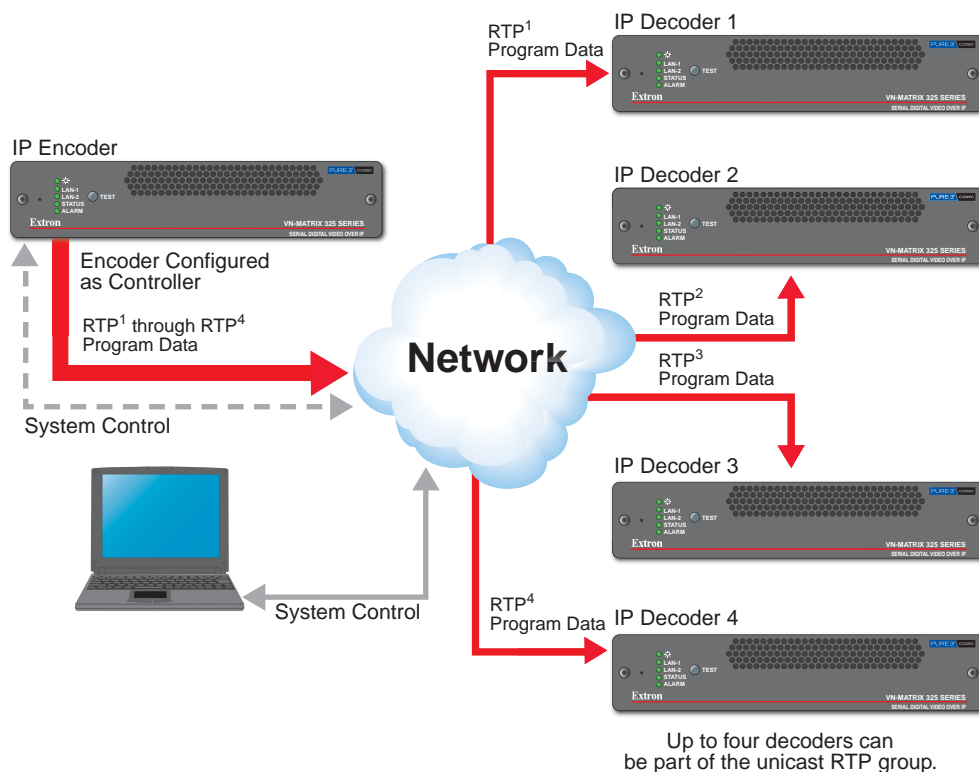

Figure 4. Typical Unicast RTP Application
Like multicast RTP, the unicast RTP data transport method uses a real-time variation of the UDP protocol that is connected as shown in figure 4. Unicast RTP differs from multicast RTP in that it is a point-to-point protocol that uses a separate data stream for each decoded display. The VN-Matrix 325 system can support up to four displays (decoders) from one source (encoder), but such a configuration uses four separate data streams and results in four times the network bit rate as a single display (decoder) configuration.
In figure 4, the four streams of data are identified as “RTP1” through “RTP4”.
- In figure 4, the IP encoder is designated as the system controller.